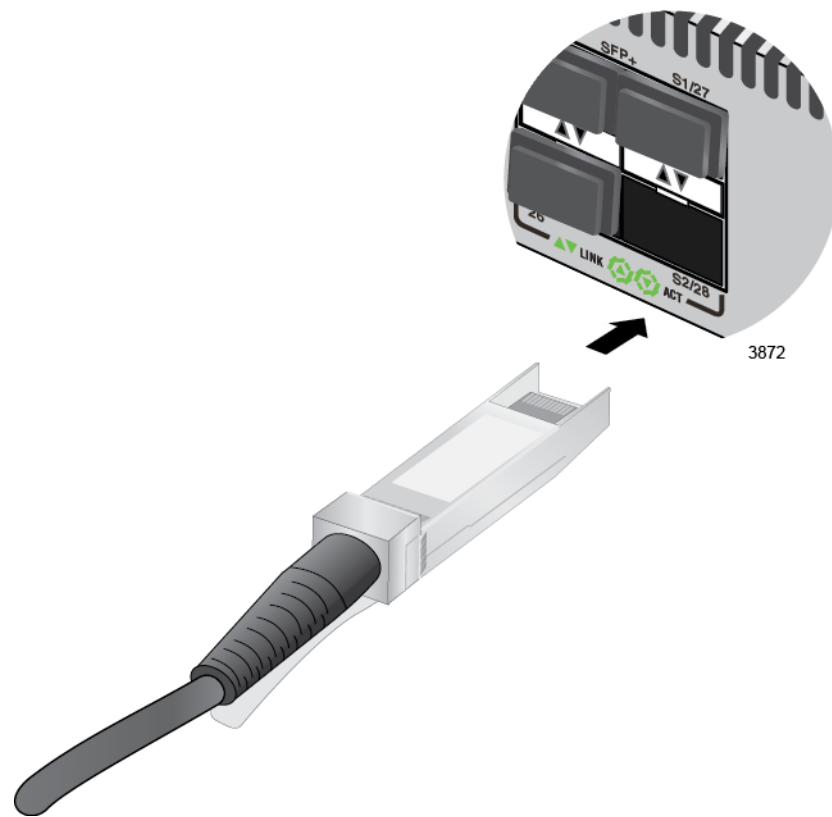

Figure 60. Installing a TwinAx Cable in Slot S2
7. Position the cable with the release tab on the bottom and slide it into the slot until it clicks into place, as shown in Figure 60.